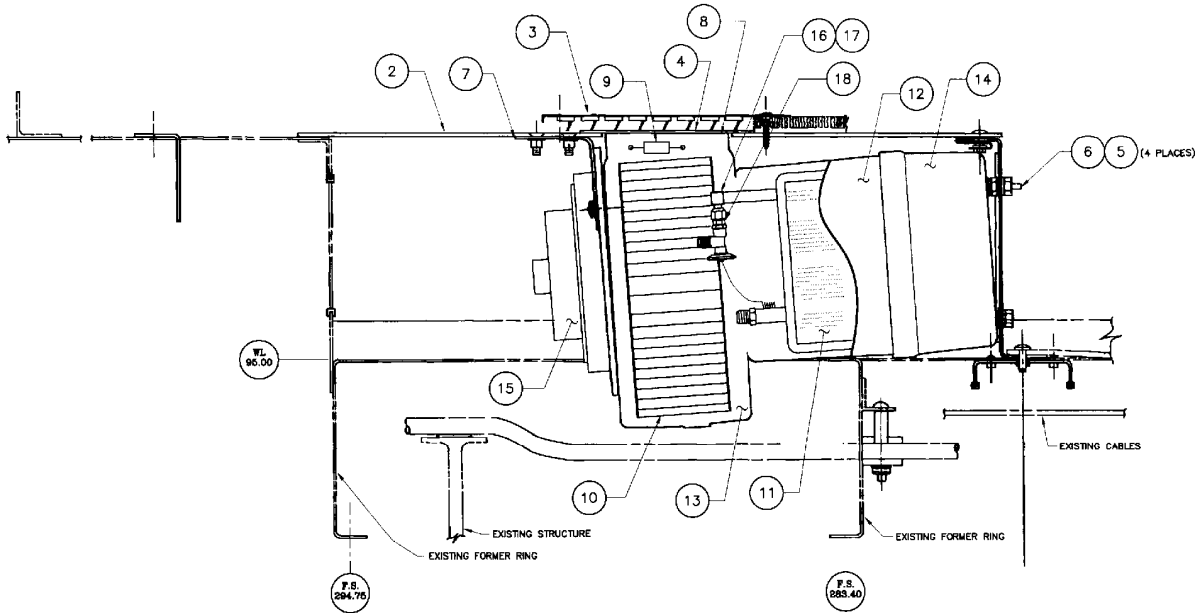

Figure 1. Aft Evaporator Assembly
3. EVAPORATOR MAINTENANCE PROCEDURES (REF. IPL Fig. 1)
IPL FIGURE 1